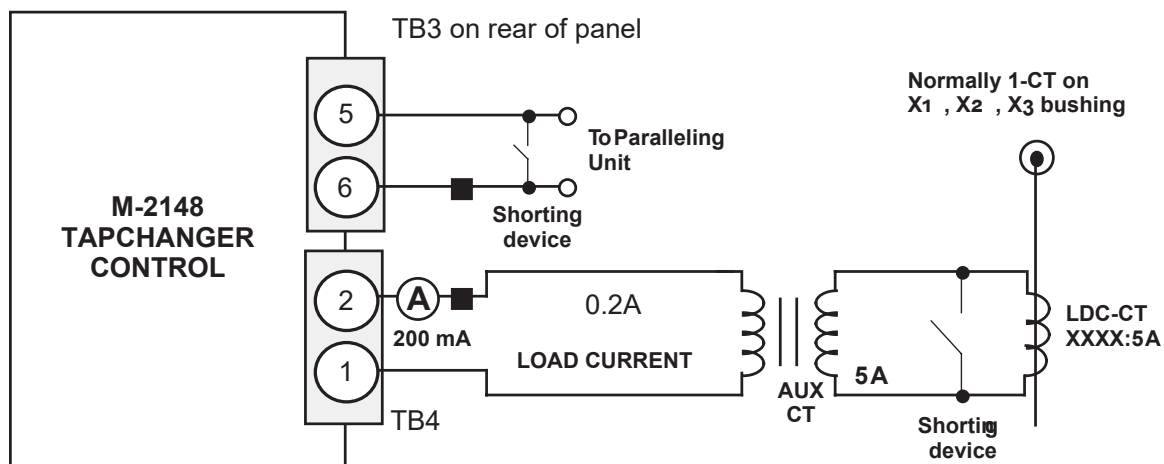

Figure 8 Setup for Current Checkout Procedure
5. As shown in Figure 8 temporarily place a shorting device across the LDC-CT secondary to short the line drop compensator circuit, and place another shorting device across TB3-5 and TB3-6 to short the circulating current paralleling input, for the load current check. Insert an ammeter between the polarity input and TB4-2. Open the load current shorting device and with a known load on the transformer or regulator, measure the current in the load current circuit to ensure that this current is correct for 0.2 A full load.